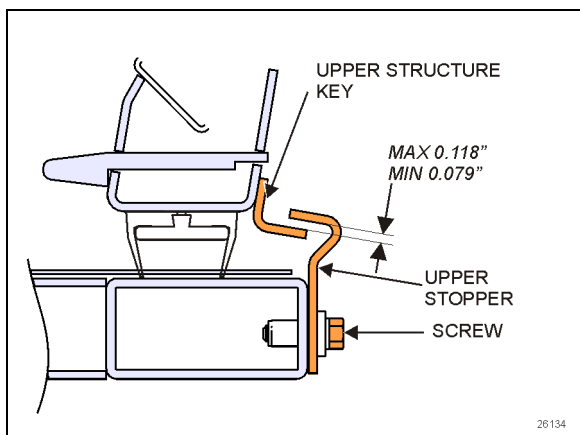

FIGURE 27: UPPER INNER STOPPERS ADJUSTMENT
1. Adjust the upper structure key and the inner stoppers according to Figure 27 with the seal deflated. When inflating, the seal presses the roof structure upward slightly and at that moment, the upper inner stopper